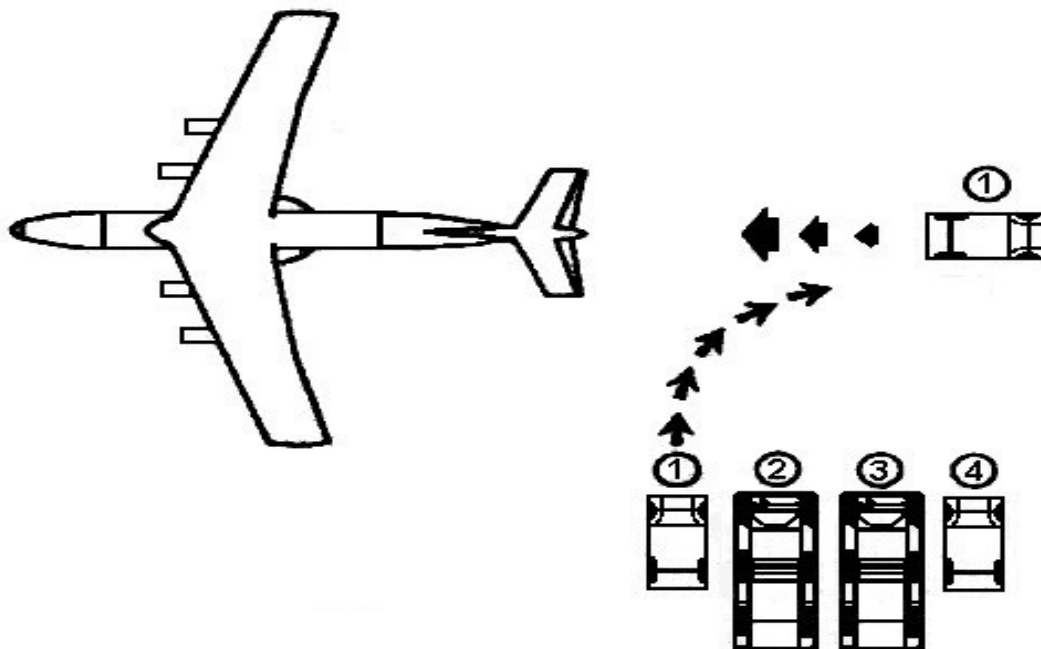

Figure 3-23
6. Escort vehicle chawks to the aircraft (see Figure 3-23).